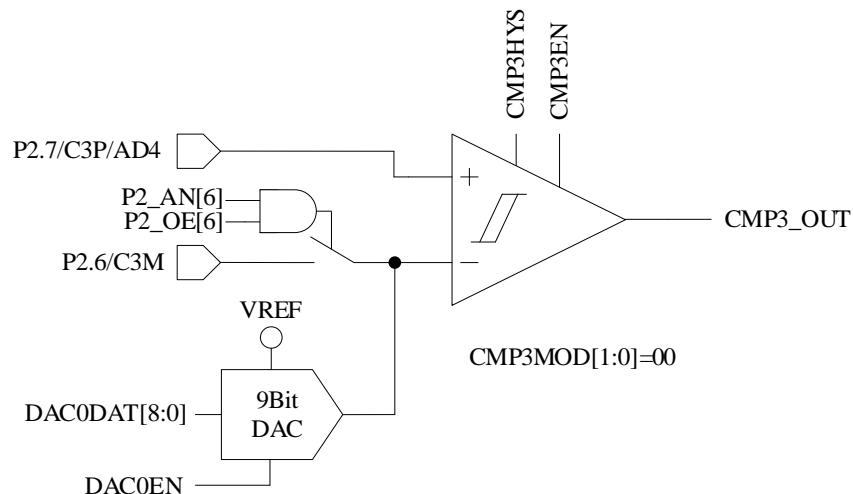
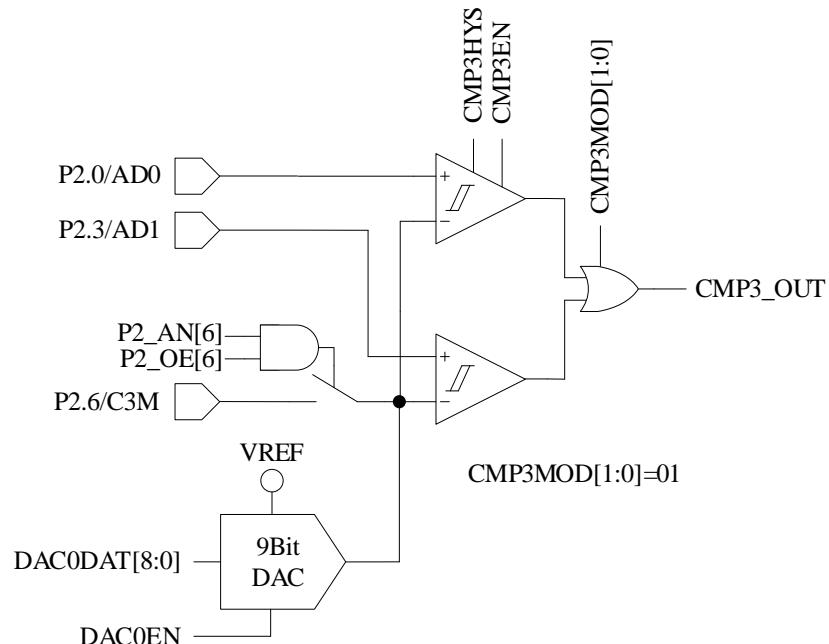
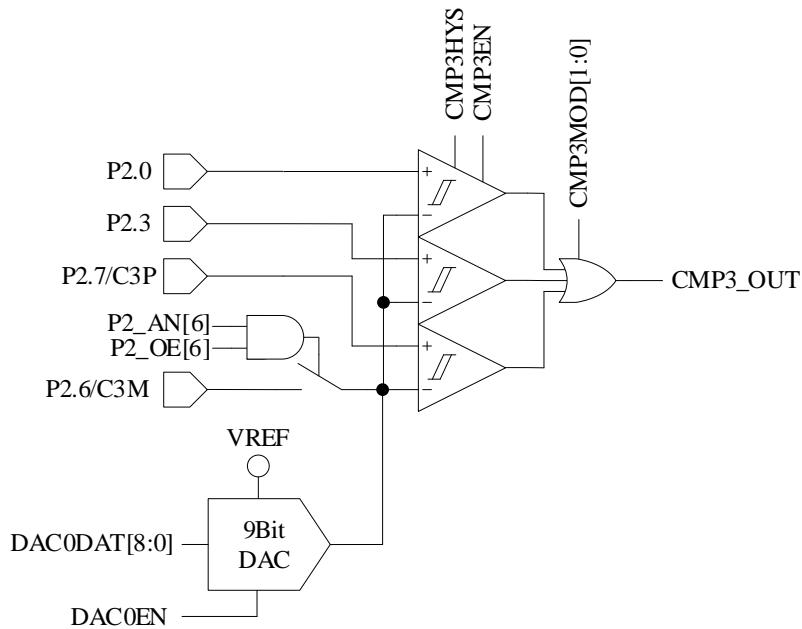

Figure 31-2 Single-comparator Input Mode
Figure 31-3 Dual-comparator Input Mode
Figure 31-4 Triple-comparator Input Mode
- When CMP_CR1[CMP3MOD] = 00, CMP3 works in Single-comparator Input Mode. The connection of input and output pins are shown in Figure 31-2.
- When CMP_CR1[CMP3MOD] = 01, CMP3 works in Dual-comparator Input Mode. The connection of input and output pins are shown in Figure 31-3.
- When CMP_CR1[CMP3MOD] = 1X, CMP3 works in Three-comparator Input Mode. The connection of input and output pins are as shown in Figure 31-4.
| [6:5] | CMP3MOD | CMP Mode Selection Negative input connected to P2.6 or DAC0 output 00: Single-comparator mode, where P2.7 is connected to the positive input, as shown in Figure 31-2. 01: Dual-comparator mode, where P2.0 and P2.3 are connected to the positive input, as shown in Figure 31-3. 1X: Three-comparator mode, where P2.0, P2.3 and P2.7 are connected to the positive input, as shown in Figure 31-4. | | | | | | |